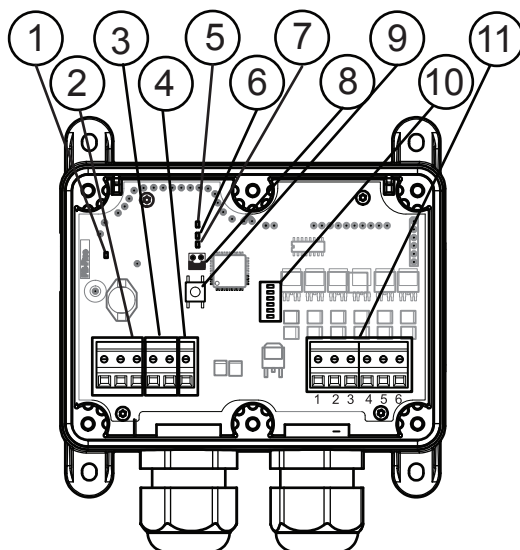
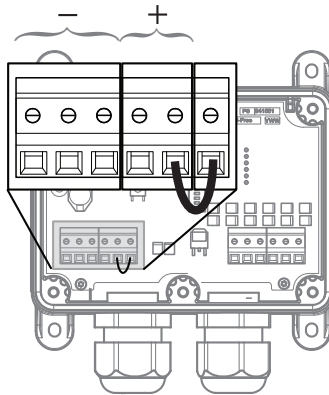

Figure 1. Sesam 800 RXM TL model indicators, connections and jumper.
Figure 2. Configuring internal supply of output power
The Sesam 800 RXM TL model has LED indicators that indicate different parameters (see Figure 1 for positions of the LEDs).
Connect 12/24 V DC (+) to position 3 and ground (-) to position 2 (see ③ and ② in Figure 1).
Connect the equipment to be controlled to output terminals 1-6 (see ⑪ in Figure 1) and equipment ground to position 2 (see ② in Figure 1). If the outputs are to be powered by the same 12/24 V DC supply as the receiver place a jumper between the Output Power Input and Positive (+) 12/24 V DC using a 0,75 mm² cable (see Figure 2).
2. Push the “Learn/Erase” button until LED 7 (see ⑦ in Figure 1) is ON.
4. Press button 1 (①) on the transmitter. LED 7 flashes 3 times if the Learn is successful.